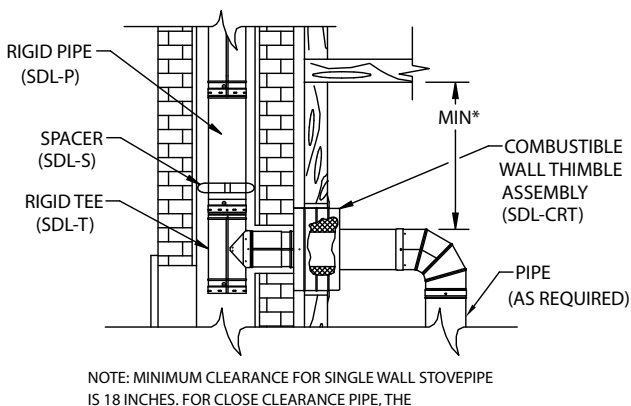

Figure 40
Step 2: If no hole exists in the masonry, mark the center point for the location of penetration into the combustible wall. Before cutting or drilling, check the clearance between the top of the connecting pipe to the ceiling, as shown in **Figure 40**. The minimum clearance for single wall pipe is 18 inches, and for Close Clearance Connector Pipe, 8 inches. The system is designed to attach to the appliance with Close Connector Pipe and Fittings. Consequently, DuraVent strongly recommends using this specific pipe as a connector.